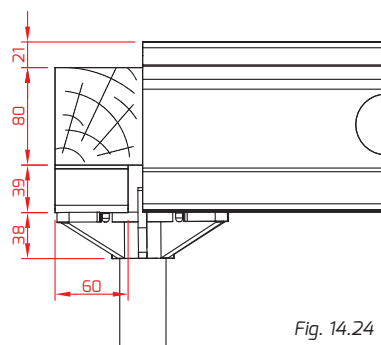

Fig. 14.24
8. To fill the gap in a different manner you should use the wooden square timbers 80 mm high positioned on the spacing head superstructures (A0075000) (fig. 14.24 and 14.25).